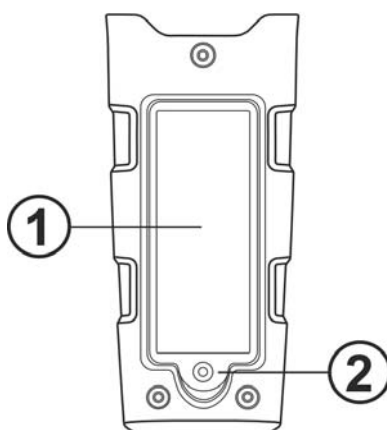

Fig. 5: Battery replacement
2. Loosen the fastening screw (see Fig. 5 – part 2) of the battery compartment cover (see Fig. 5 – part 1), remove the cover and remove the batteries.